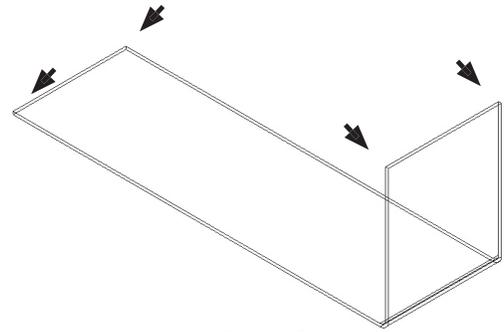

Fig. 48
Step 7. Click a corner edge, **Fig. 48**.